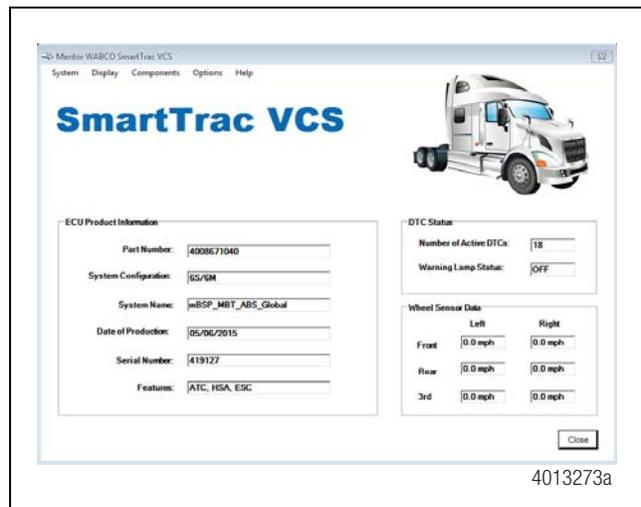

Figure 3.4
5. In the **Main Menu**, select **Pneumatic ABS/ST Hydr J1939**. The **ABS Main Screen** will appear. Figure 3.4.